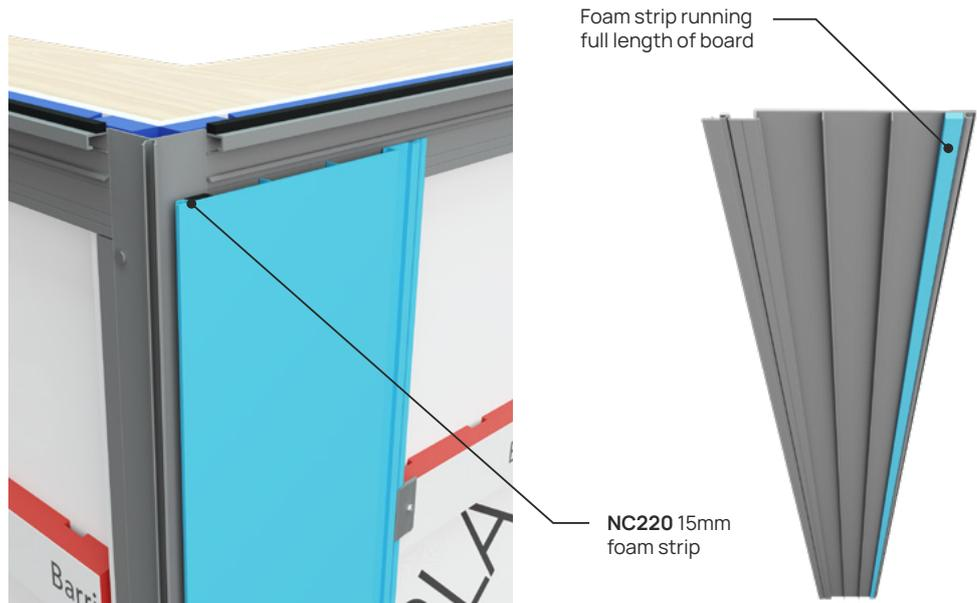

FIGURE 33. LOCATION OF 15MM FOAM STRIP
4. Fit 15mm Foam Tape (NC220) full length down the back face leading edge. - See Figure 33.